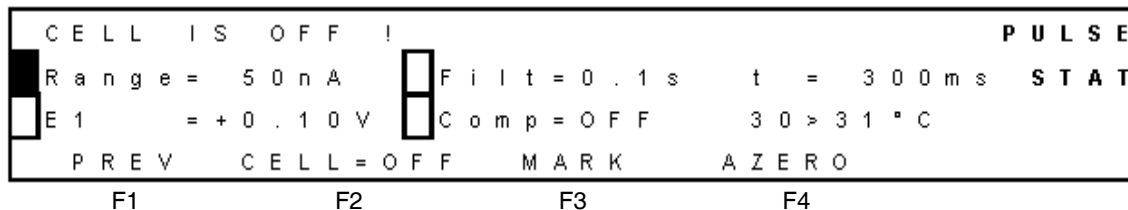

Figure 3-43 Pulse Stat Screen with Cell Off
3. Select **F5 NEXT**. The Pulse Stat screen appears (Figure 3-43) and the value for F2 CELL is OFF.